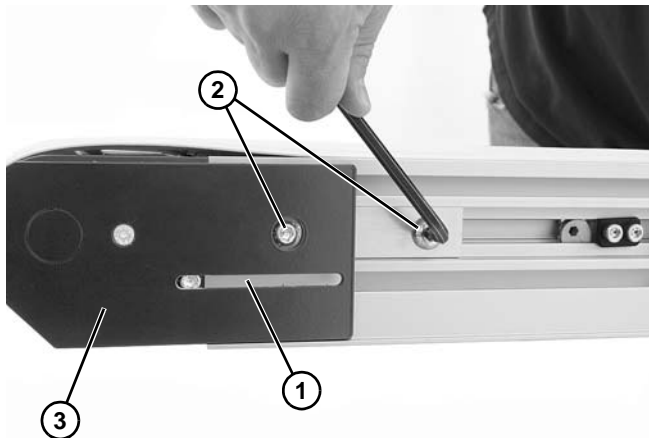

Figure 30
2. On tension end of the conveyor, identified by the pinion access slot (**Figure 30, item 1**), loosen the two tail clamp bolts (**Figure 30, item 2**) on both sides of the conveyor and push head plate assembly (**Figure 30, item 3**) inward.